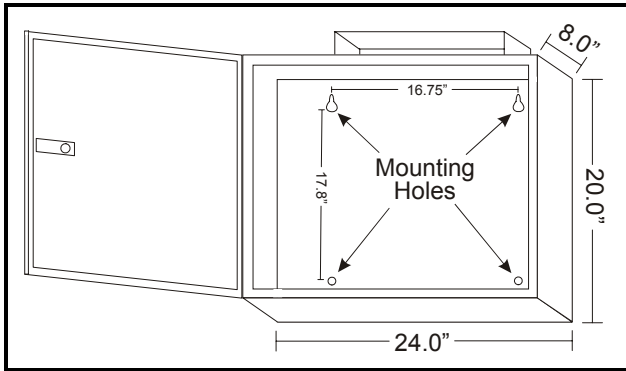
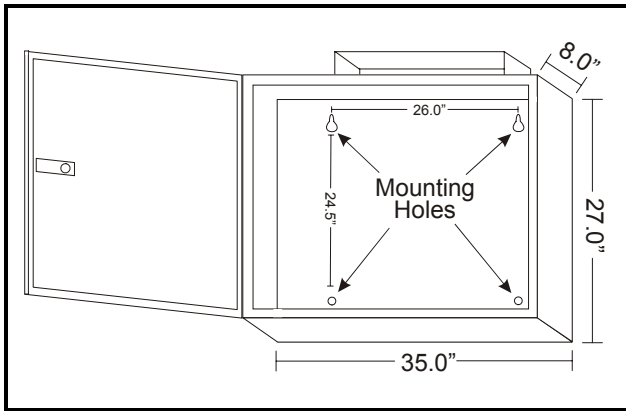

Figure 2-1 - PMAC II Dimensions for the 16 and 20 Channel
Figure 2-2 - PMAC II Dimensions for the 28 Channel
1. Mount the PMAC II panel in a central location such as a motor or electrical room. The panel should be where there is good air flow (not in a closet). Keep a 6-12 inch clearance on top and bottom for good air flow. The room's ambient temperature should always be below 100° F. **Figure 2-1** and **Figure 2-2** have the mounting dimensions.